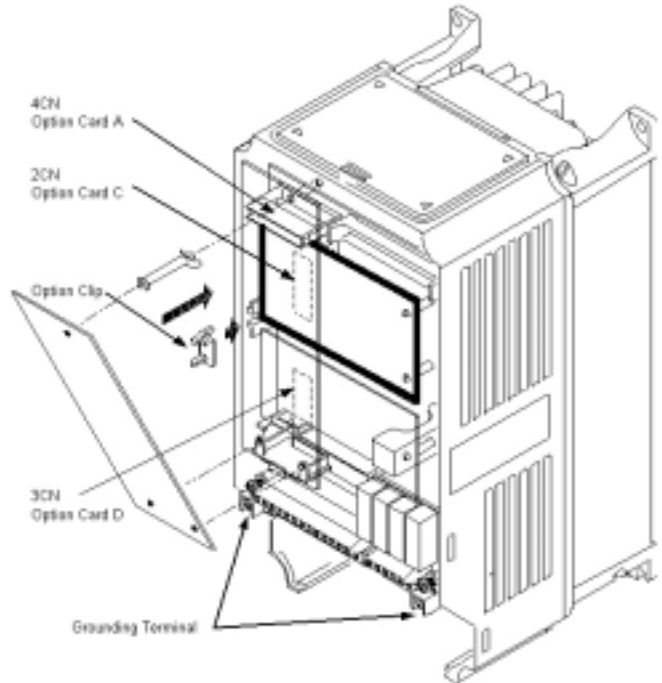

Figure 1. AI-14B Option Card Installation
5. **Option Card Installation:** See Figure 1. Position the option card above the control board's 2CN connector and gently press the card into place.